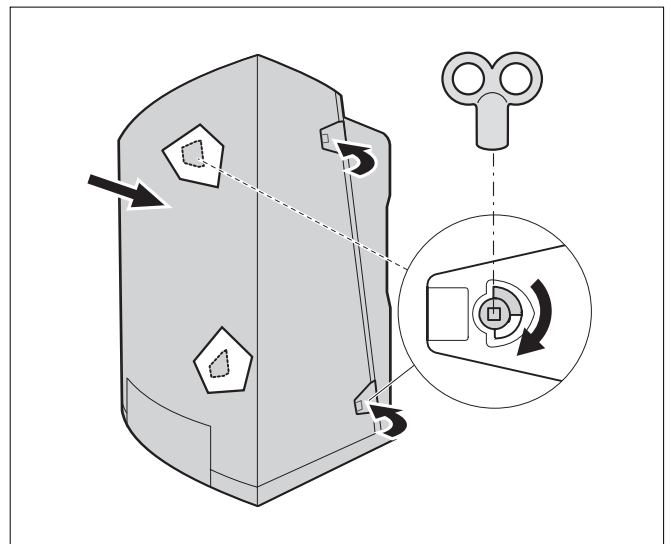

Fig. 35 Installing the casing
- Install the casing and close the latches (fig. 35). Do not lift the casing by the latches!